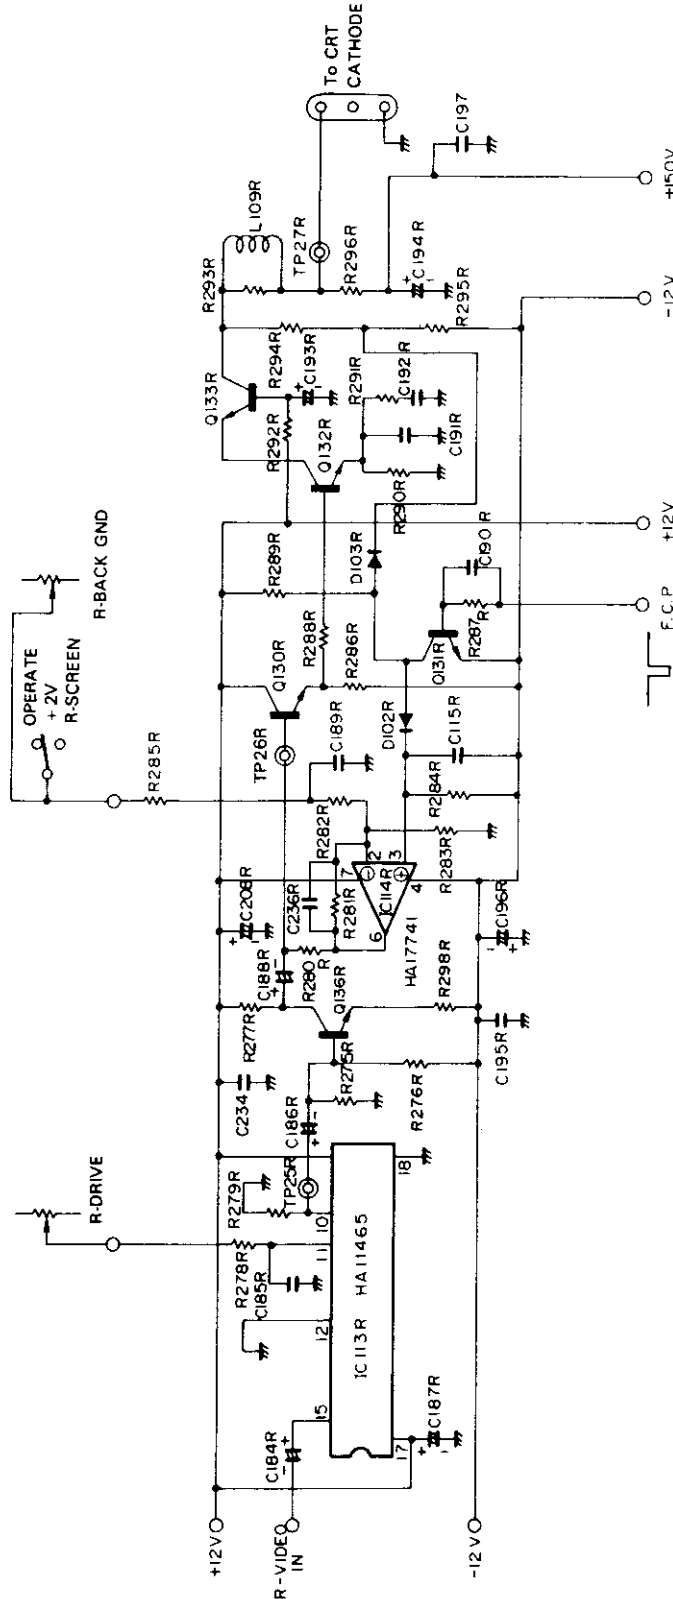

Fig. 25. Video AMP Circuit
- 3) In Fig. 25, the R signal demodulated by the matrix circuit is applied to Pin ⑮ of Pre Amp IC113R.
- 4) IC113, the DC control video amplifier explained in section 6, can vary the video gain by the R-drive control connected to Pin ⑪.
- 5) The negative video signal appearing at Pin ⑩ of IC113 is amplified and its polarity inverted by Q126. A positive video signal is obtained at the collector.
- 11) R284R is the discharge path (controlled leak) for hold capacitor C115R to follow the output DC in both directions. The sampled output DC level is applied to Pin ③ of IC114R.
- 12) A DC voltage regulated by R-BACK GND is applied to IC114R's pin ② as a comparison voltage, the difference between the comparison voltage and the sampled output voltage at Pin ③ becomes the input to the operational Amp IC114R, where it is amplified. The output is Pin ⑥.
- 13) The voltage that appears at Pin ⑥ of IC114R is connected through R280R and becomes the base bias signal of Q130R and subsequently becomes the operating bias signal of Q132R. By means of this DC restoration feedback clamp, the DC potential of the output signal during the FCP duration of blanking is accurately fixed.